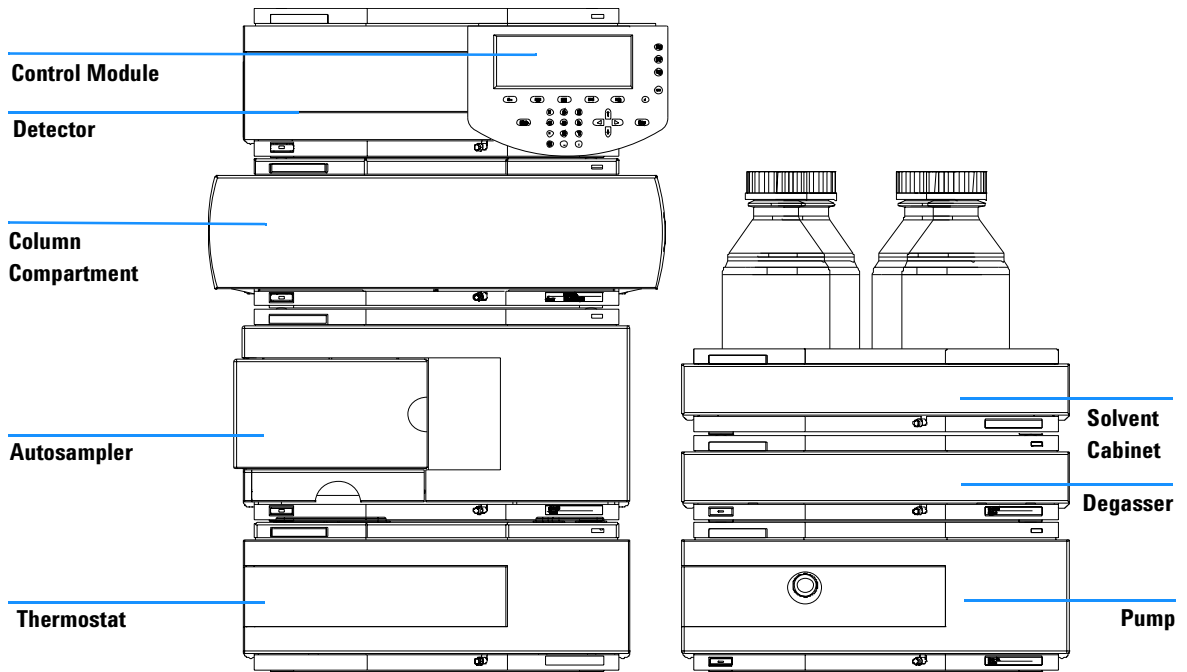
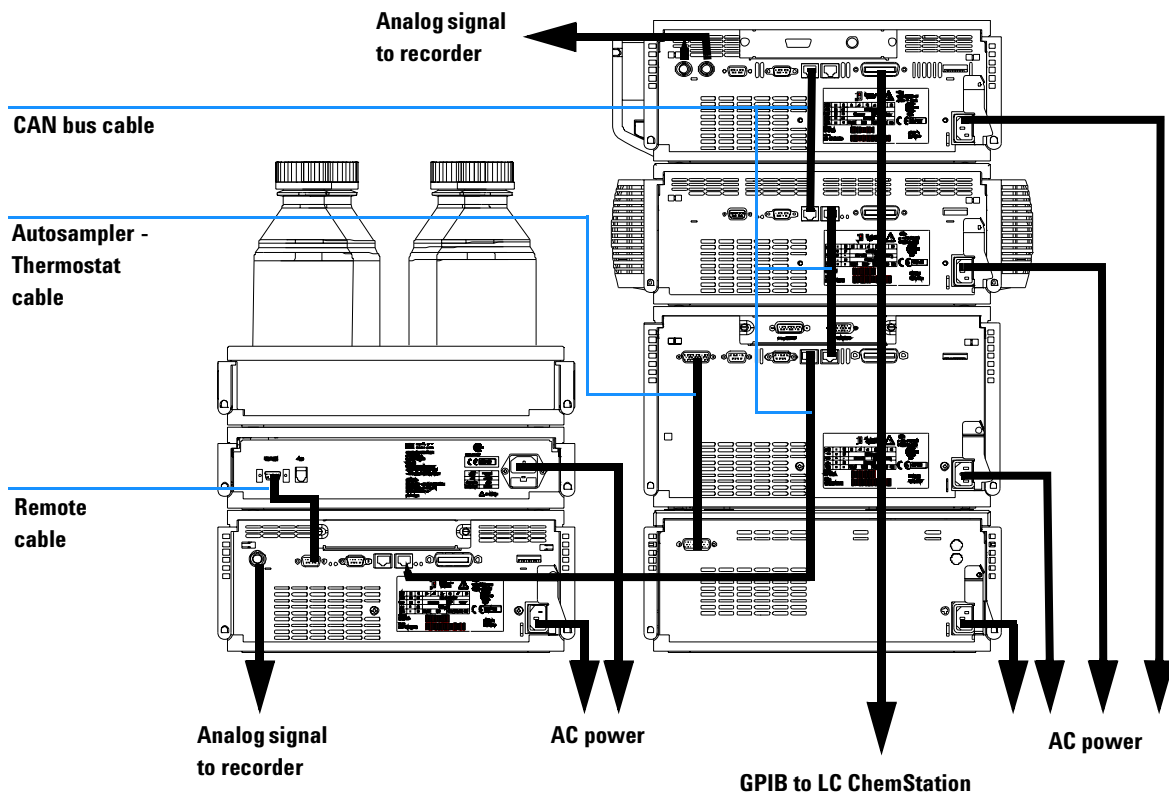
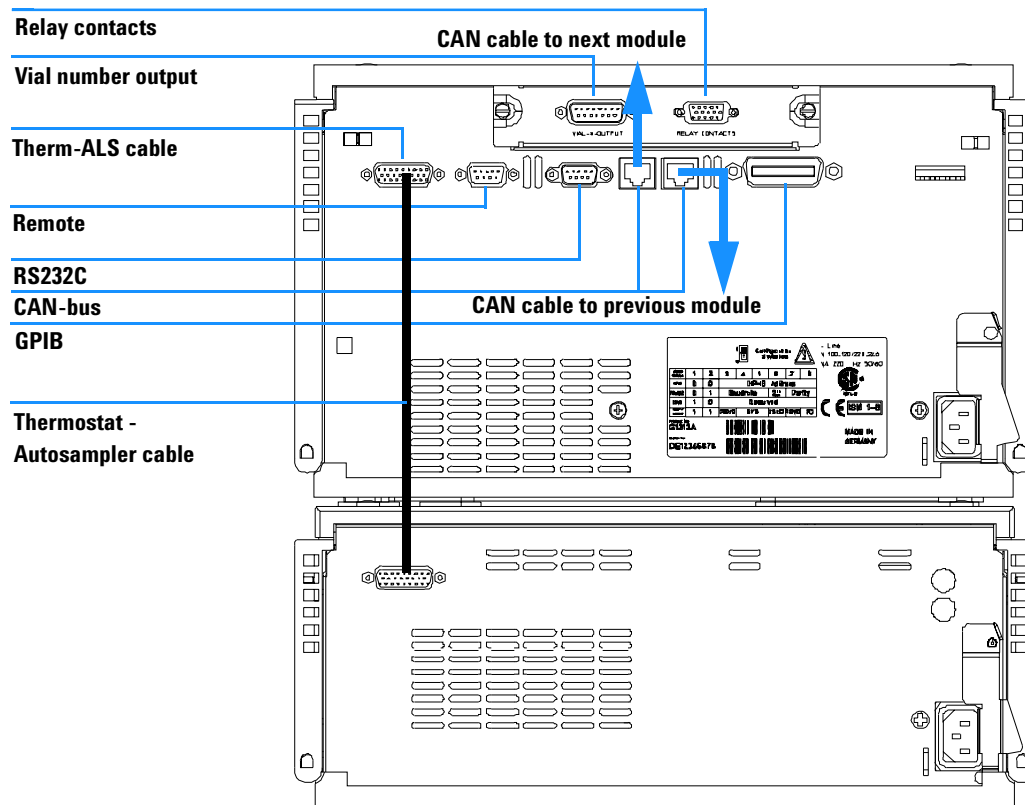

Figure 6 Recommended Stack Configuration (Front View)
Figure 7 Recommended Stack Configuration (Rear View)
Figure 13 Cable Connections.
If your autosampler is part of a system, you can ensure optimum performance by installing the autosampler in the stack in the position shown in Figure 6 and Figure 7. This configuration optimizes the system flow path, ensuring minimum delay volume.
- 5 Connect the CAN interface cables to other modules in the system (see Figure 7 on page 26 and Figure 13 on page 34).
- 6 If required, connect additional interface and control cables to the autosampler (see Figure 7 on page 26 and Figure 13 on page 34). Refer to the documentation of the Agilent 1100 Series control module or ChemStation for LC for more information.
7 Connect additional cables as required (see Figure 13 on page 34).